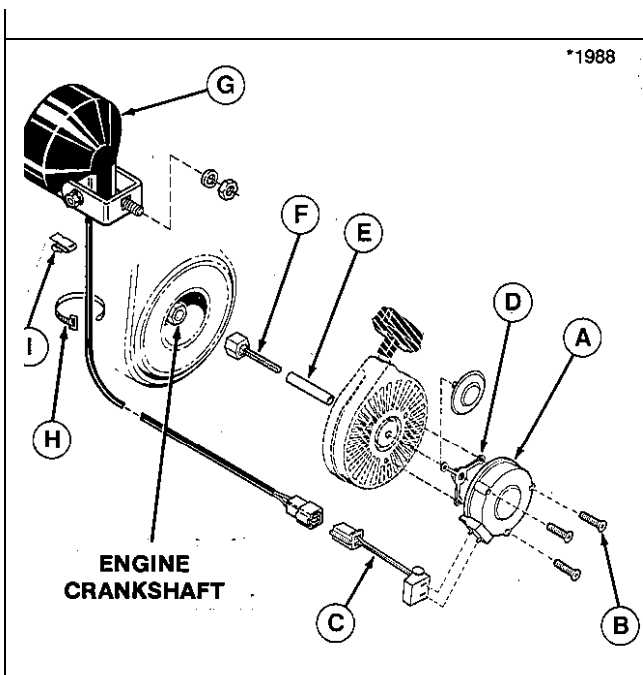

Figure 1.
3. Install alternator as provided in the Tecumseh Installation Instructions. Use the appropriate alternator shaft (F, figure 1) and self-tapping screws (B).
3. Install alternator as provided in the Tecumseh Installation Instructions. Make sure alternator is installed with wire harness plug at the 3:00 position. Use the appropriate alternator shaft (F, figure 1) and self-tapping screws (B).